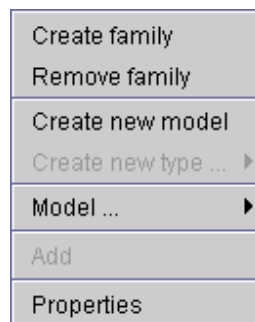

Figure 40 : Family – Popup menu
- Click on the mouse right button to display the following Popup menu (Figure 40)
- ♦ Click on the mouse right button to display the contextual menu (Figure 40).